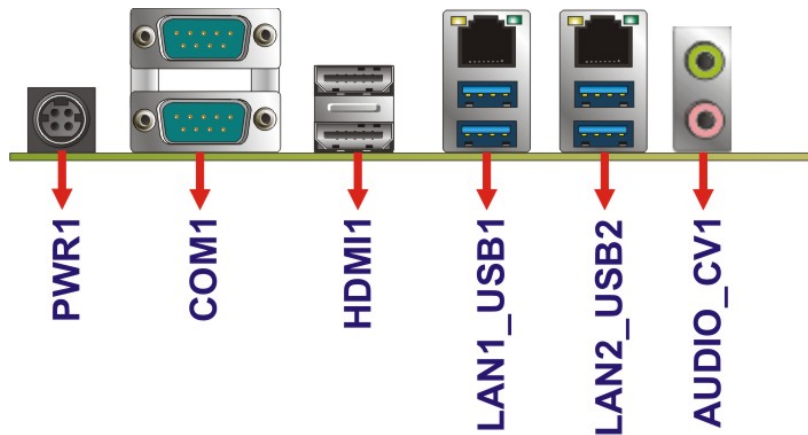

Figure 3-30: External Peripheral Interface Connector
CN Location: See Figure 3-30
- CN Location:** See **Figure 3-30**
CN Location:	See Figure 3-30